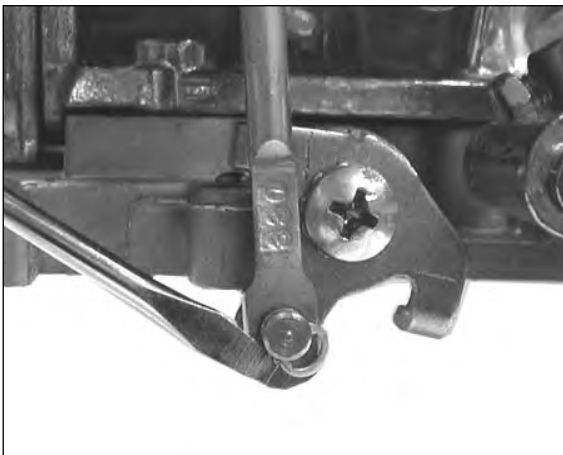

Figure 9
- Remove the clip retaining the diaphragm plunger to the secondary throttle lever using a small flat-blade screwdriver (Figure 9).